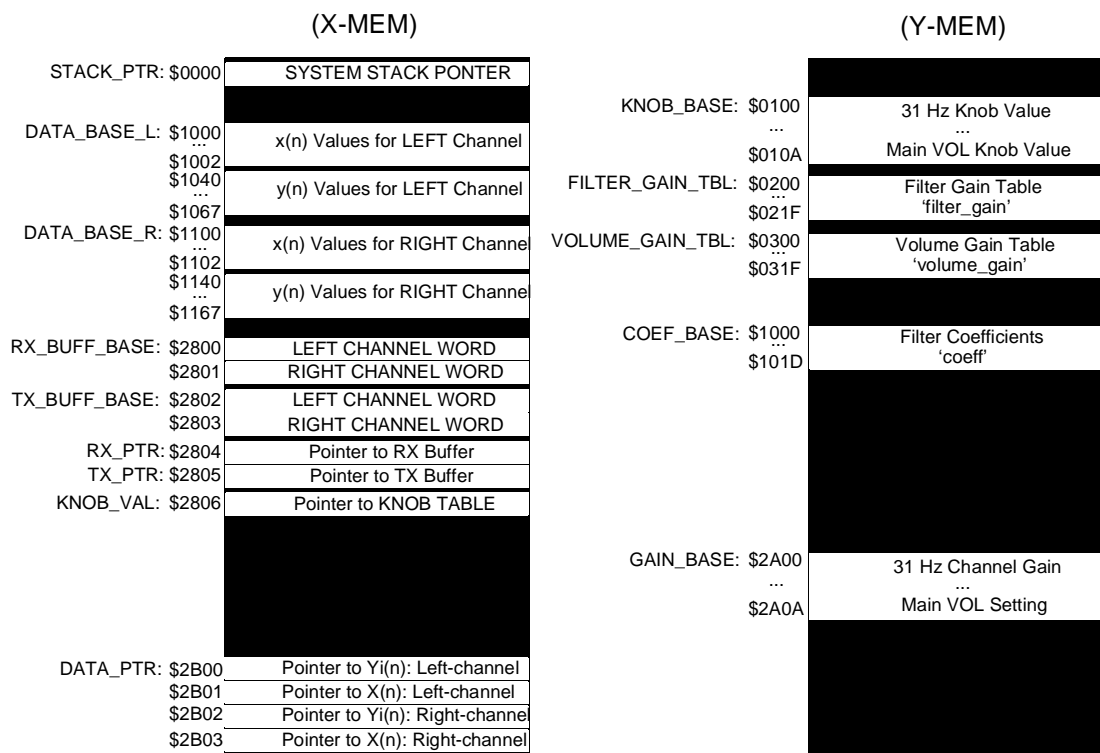

Figure 9. Memory Map for DSP56300 Core Implementation
**Figure 9** shows the memory map for this implementation. The following areas of memory are specific to this implementation and have not been discussed in previous sections.